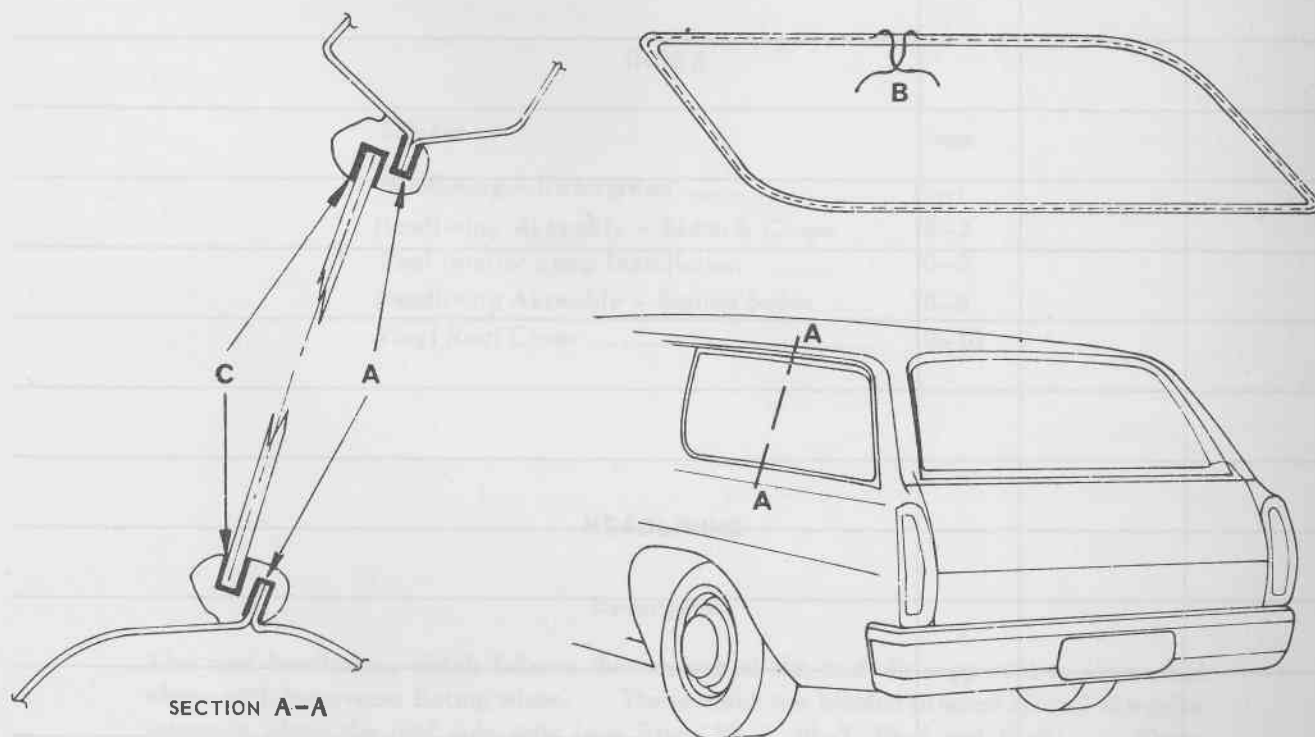

FIG. 9 - 5
5. Apply windshield sealer between glass and lip of retaining channel, around complete perimeter of window (see C, Section A-A, Fig. 9 - 5).